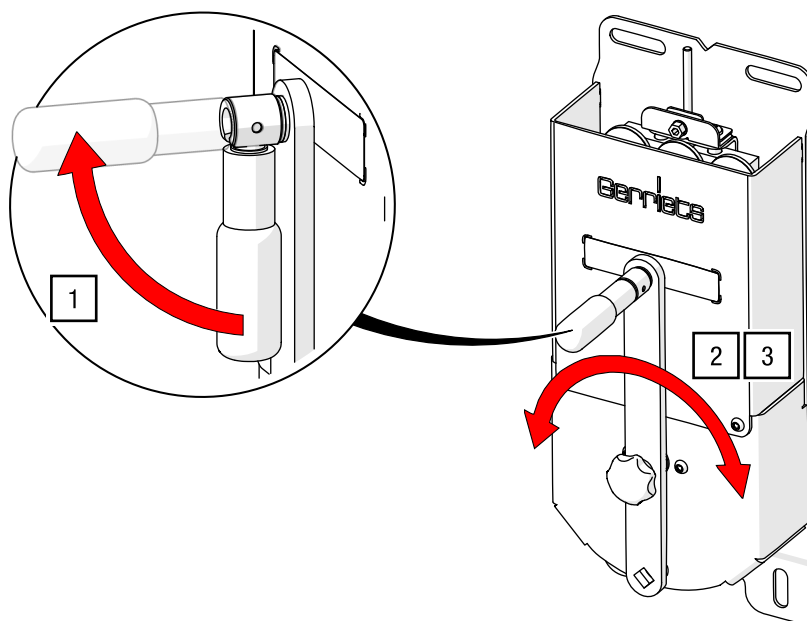

Fig. 137: HAND-DRIVE – Folding and operating the handle
1. Fold the handle into the horizontal position (see Fig. 137).
2. Revolve the crank handle to move the attached loads via the operating cord (see Fig. 137).